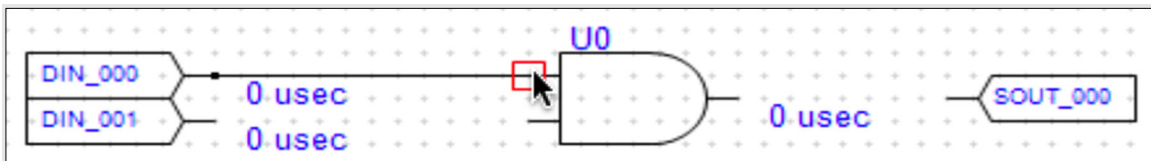

Figure 79 - Locating Next Connection Point
- 2) While holding the left mouse button, move the cursor to the next pin to connect. A large red rectangle is shown if the cursor is on a valid connection point (Figure 79 - Locating Next Connection Point).